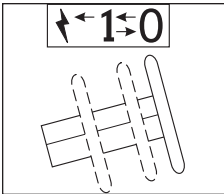

Figure 7
6. To shut the gun off, pull the On/Off Valve and Ignition Switch to the '0' (Off) position (Figure 7).